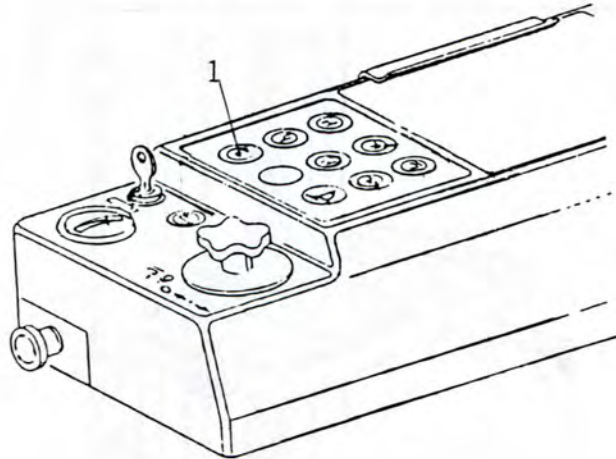

Fig. 20 Emergency Lower (Cab)
8.1.1 From the cab. Depress the push button (1 Fig. 20) (EMERGENCY LOWER).